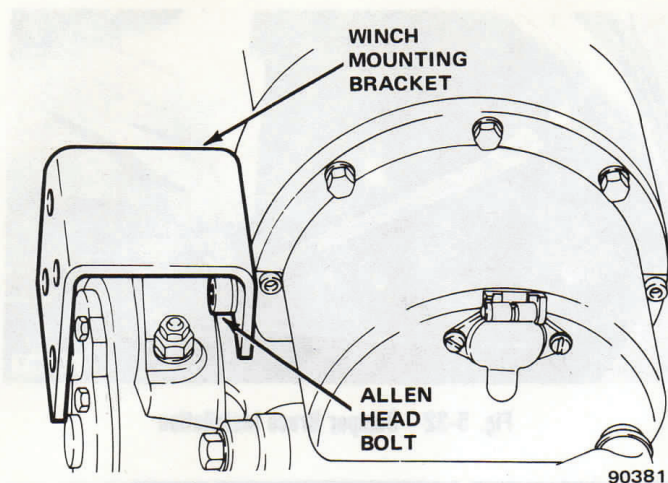

Fig. 5-26 Allen Head Bolt Location in Winch Mounting Bracket
**NOTE:** Install the Allen head bolt in the outboard hole of the gear housing (fig. 5-26).